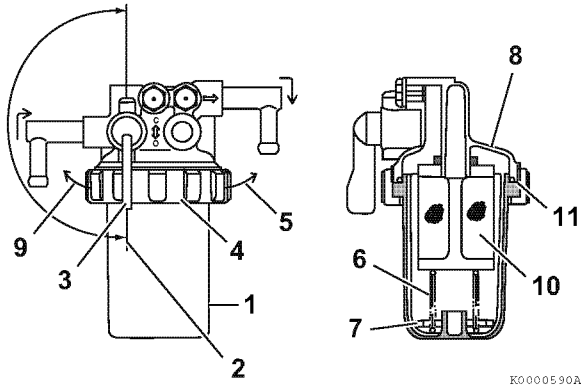

Figure 4
1. Position an approved container under the fuel filter/water separator (1, **Figure 4**) to collect the contaminants.
2. Close (2, **Figure 4**) the fuel cock (3, **Figure 4**).
3. Turn the retaining ring (4, **Figure 4**) to the left (9, **Figure 4**).
4. Carefully remove the cup (1, **Figure 4**). Remove the retaining spring (6, **Figure 4**) and float (7, **Figure 4**) from the cup. Pour the fuel into an approved container and dispose of waste properly. Hold the bottom of the cup with a shop towel to prevent the fuel from dripping. Wipe up any spills immediately.
6. Inspect the condition of the mesh filter (10, **Figure 4**). Clean the mesh filter if necessary.
7. Inspect the condition of the O-ring (11, **Figure 4**). Replace the O-ring if necessary.
8. Put the float (7, **Figure 4**) and retaining spring (6, **Figure 4**) inside the cup.
9. Reinstall the cup to the mounting flange (8, **Figure 4**) and turn the retaining ring (4, **Figure 4**) to the right (5, **Figure 4**). hand-tighten only.
10. Open the fuel cock (3, **Figure 4**).